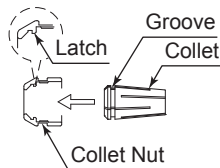
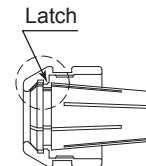

Fig. 8
Fig. 9
- (3) To install the collet, hold the collet at a slight angle, and insert it into the collet nut (Fig. 8). Press the collet in the collet nut by positioning the collet in the collet nut and pressing down on flat surface (Fig. 9). Be sure to fully engage the latch inside the collet nut into the groove on the collet's outer circumference area (Fig. 9).